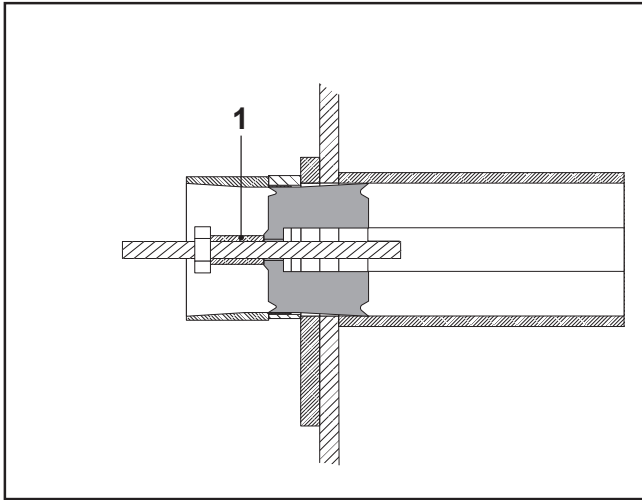

FIG. 71
- To make the piston reach the piston rod (FIG. 71/72-REF. 1) apply the spacers and keep tightening the nut.